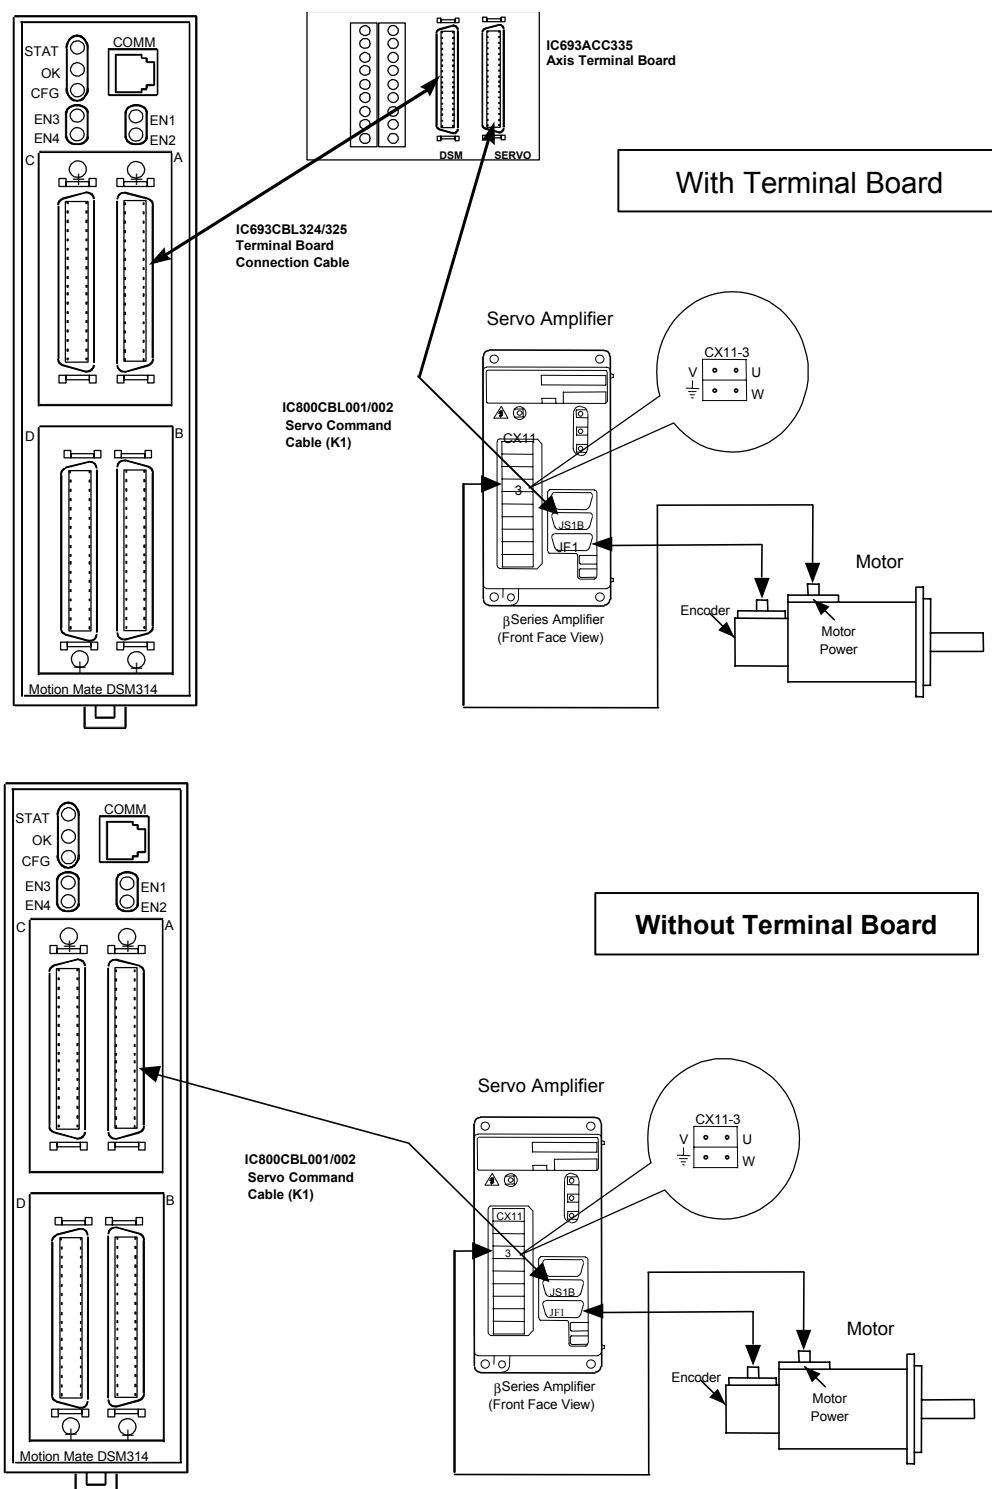

Figure 2-9. β Series Servo Amplifier Connections
- C. Locate the servo command cable **IC800CBL001** (1 meter) or **IC800CBL002** (3 meter). Insert the mating end of this cable into the connector **JS1B**, located on the front of the Servo Amplifier (see Figure 2-9).
- B. Plug the end of the cable with the D-shell style connector into the connection labeled **JF1** on the servo amplifier (see Figure 2-9).